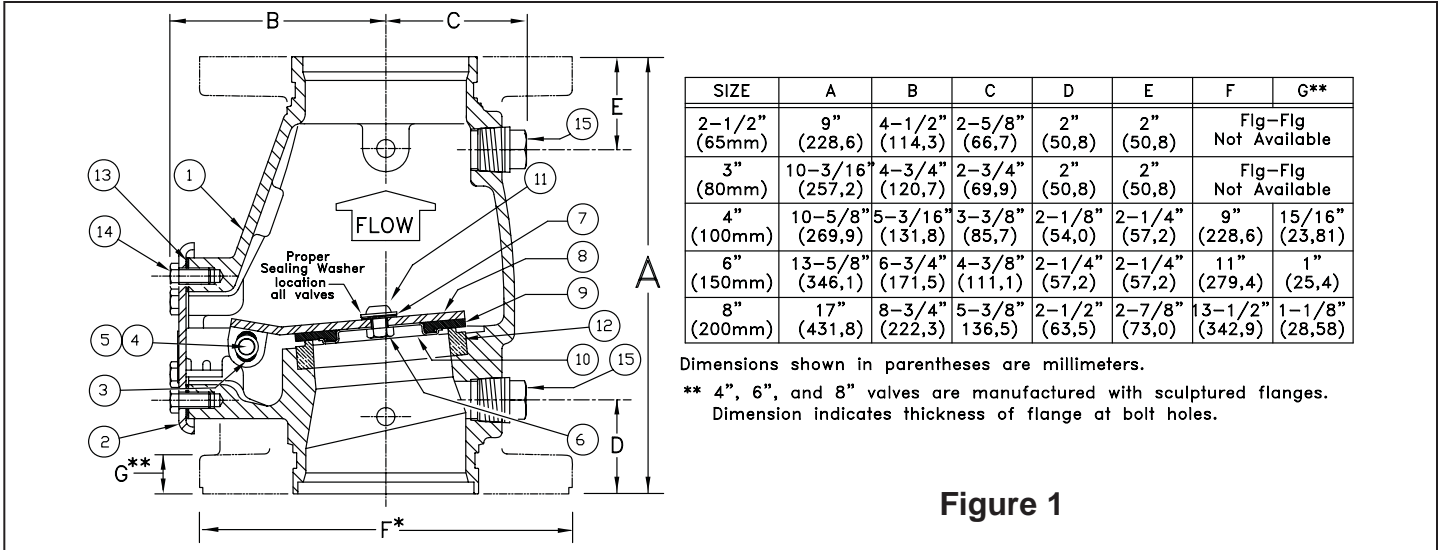

Figure 1
Refer to Figure 1
5. OPERATION (Refer to Figure 1)
(Refer to Figure 1)
2. To remove clapper rubber (9):
- a. Use the appropriate wrenches to loosen and remove the button-head socket screw (11), hex nut (6), sealing washer (7), and rubber retainer (10).
- b. Remove the clapper rubber (9) for inspection. If the clapper rubber shows signs of wear, such as cracking, cuts, or excessively deep grooves where the rubber contacts the water seat, replace the rubber.
3. To re-install clapper rubber (9):
- a. Place the clapper rubber (9) over the center hub of the rubber retainer (10).
- b. Position the retainer (10) (with rubber in place) against the clapper (8) as shown in Figure 1.
- c. Replace and tighten the button-head socket screw (11), sealing washer (7), and hex nut (6). The sealing washer (7) and hex nut (6) must be located on the top side of the clapper as shown in Figure 1. Do not over-tighten.
4. To remove clapper (8), and/or hinge pin (4):
- a. Remove the hinge pin retaining rings (5) to free the hinge pin (4) for removal. After the hinge pin (4) is removed, the clapper (8) can be removed.
5. To re-install clapper (8), and/or hinge pin (4):
- a. Verify that the clapper rubber (9) is in good condition and that it is properly installed.
- b. Position the clapper (8) with the elongated hinge holes aligned between the holes of the hinge bracket welded inside the cover (2). The system (top) side of the clapper (8) must face the direction indicated by the flow arrow stamped inside the cover (2).
- c. Insert the hinge pin (4) through the holes at one end of the hinge assembly. Continue to push the hinge pin (4) through the holes at the remaining end of the hinge assembly.
- d. Re-install the hinge pin retaining rings (5).
- a. Verify that cover gasket (13) is in position and in good condition.
- b. Slide the cover/clapper assembly (2-11) into the Swing Check Valve so that the clapper rubber (9) contacts the water seat (12).